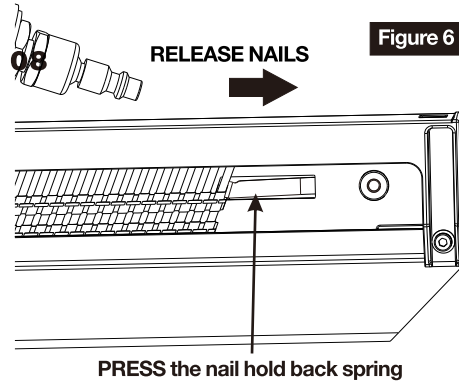

Figure 6
3. Slide the fastener to the rear magazine. Once the nails have slid back to the hold back spring, press the tab on the hold back spring to push the spring back and allow the nails to come out of the magazine. (See figure 6)